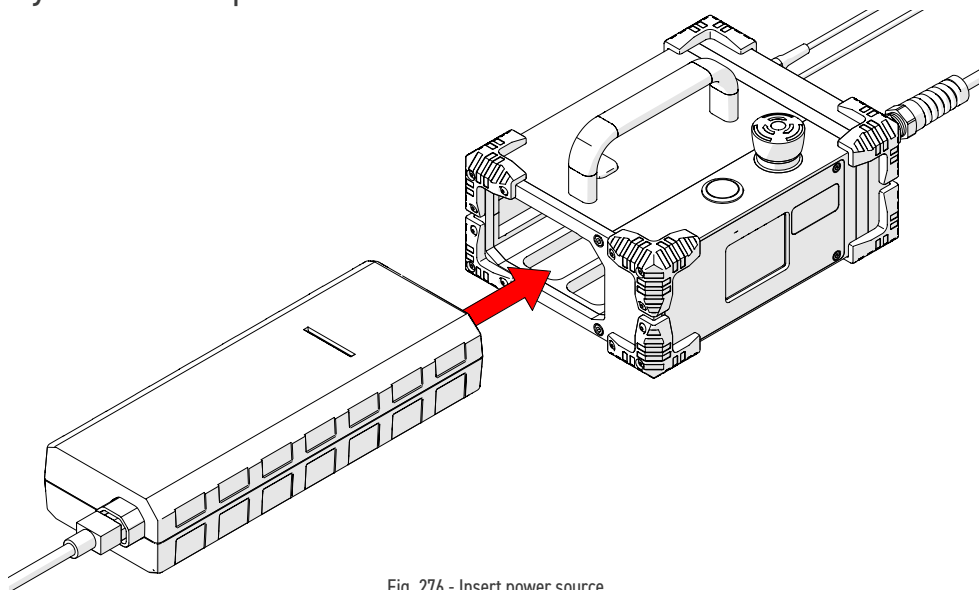

Fig. 276 - Insert power source
1. Insert the power source (Fig. 276) into the power controller dock.